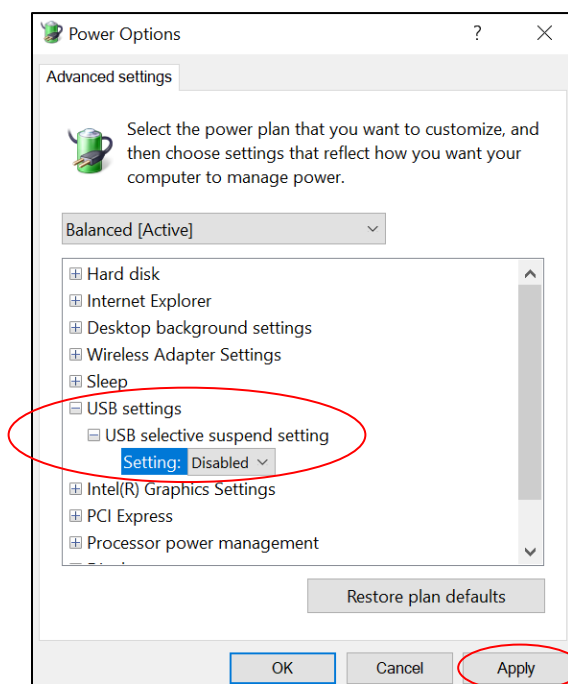

Figure 15: Disable USB Selective Suspend Setting
- Below the Hard disk options is the USB settings. Click the plus sign in the **USB settings** to open **USB selective suspend setting**. Change the setting to **Disabled**. Refer to Figure 15.
7. Select **Apply** to save the settings, as shown in Figure 15. Then click **OK** to close the window.